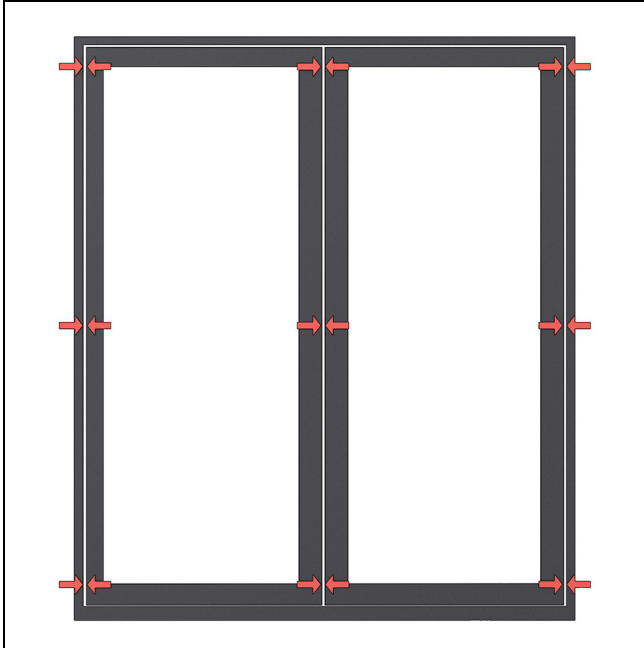

Figure 66
1. Adjust your hinges horizontally until you have consistent reveals along the sides and at meeting stiles. See Figure 66.